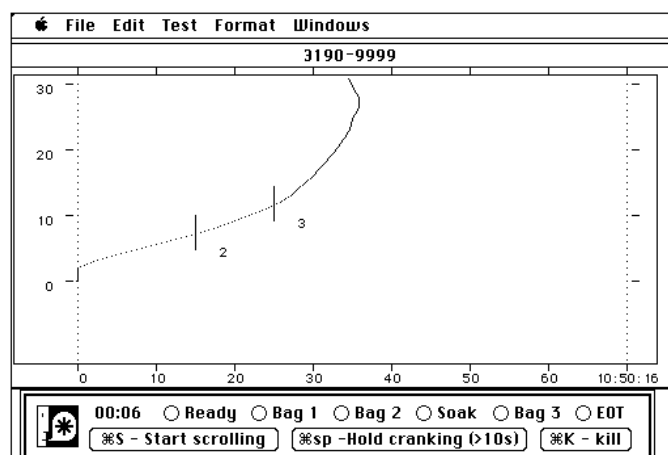

Figure 18
- 342 If the vehicle does not start after 10 seconds of cranking, the cranking shall cease and the reason for failure to start shall be determined. Select the “Hold cranking > 10 sec.” button at the bottom of the screen by pressing <Command-Space Bar>. See Figure 18